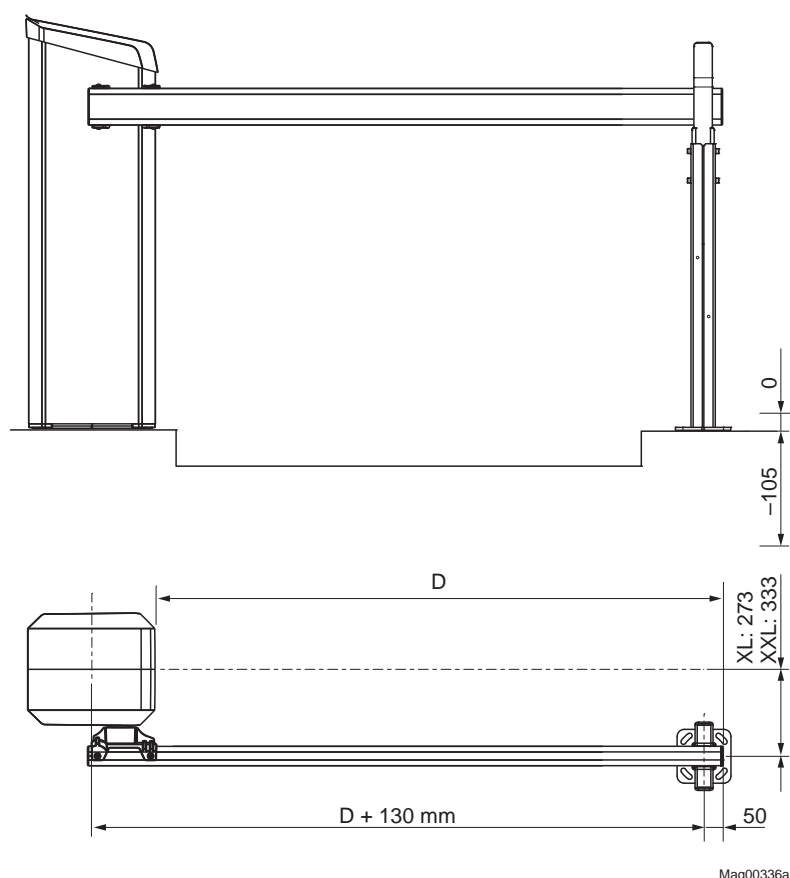

Fig. 16: Dimensions barrier housing – post (dimensions in mm)
- Place post centre at a distance of 50 mm from the barrier boom tip. → See page 50, Fig. 16.